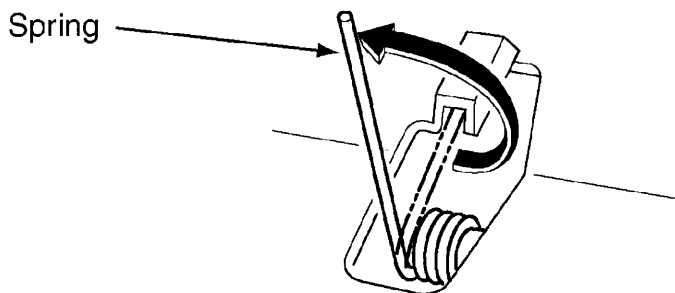

Figure-12
- Release the spring as shown in Figure-12.